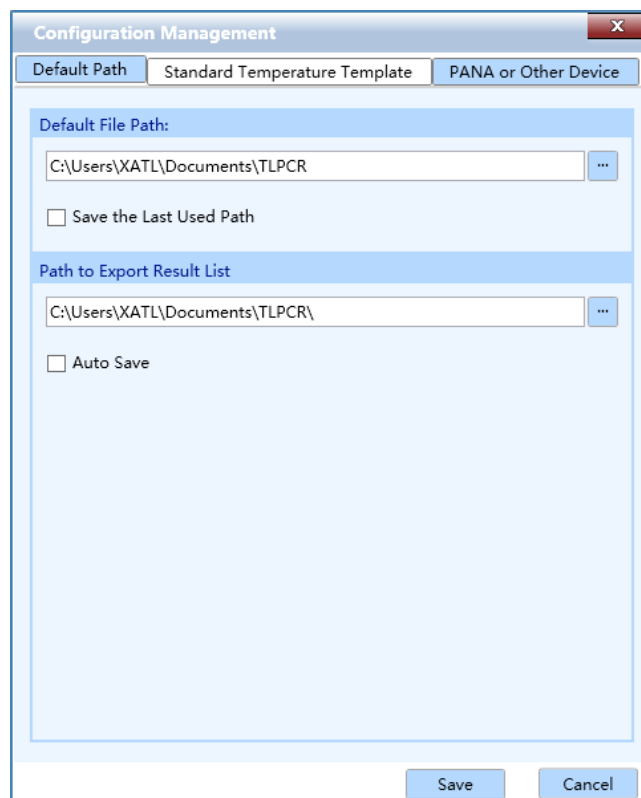

Figure D-3.8a. Option Submenu - Configuration Management Interface - Default Path Tab
1. **Configuration Management:** Click **Configuration Management** option in the **Option** submenu and the application software will automatically pop up the configuration management interface, as shown in figure D-3.8a.
- ▶ **Default Path** tab: the configuration management interface displays the **Default Path** tab by default, as shown in figure D-3.8a.
3. **Analysis Parameter Management:** Click **Analysis Parameter Management** option in the Option submenu and the application software will automatically pop up the analysis parameter management interface, as shown in figure D-3.8a. User can manage the analysis parameters of different types of experiments in this interface.